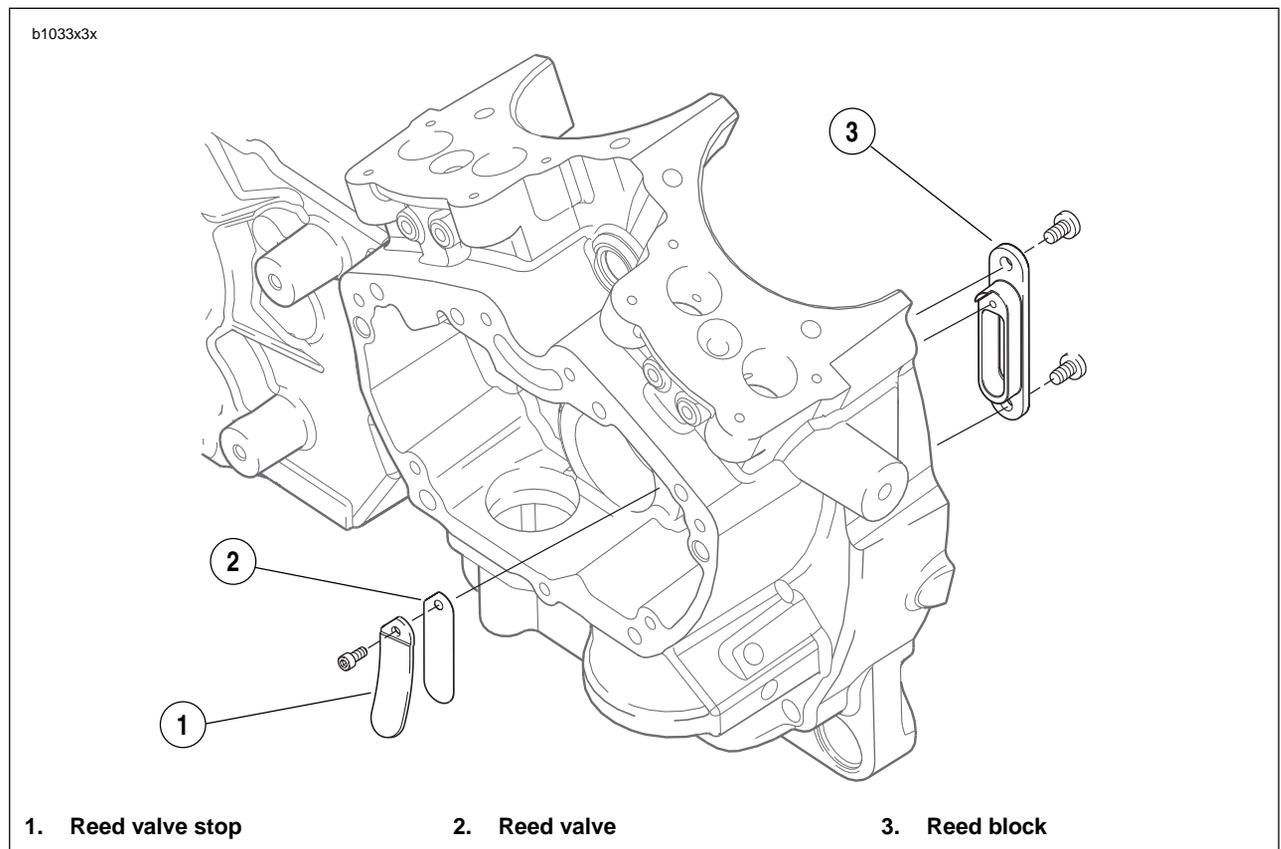
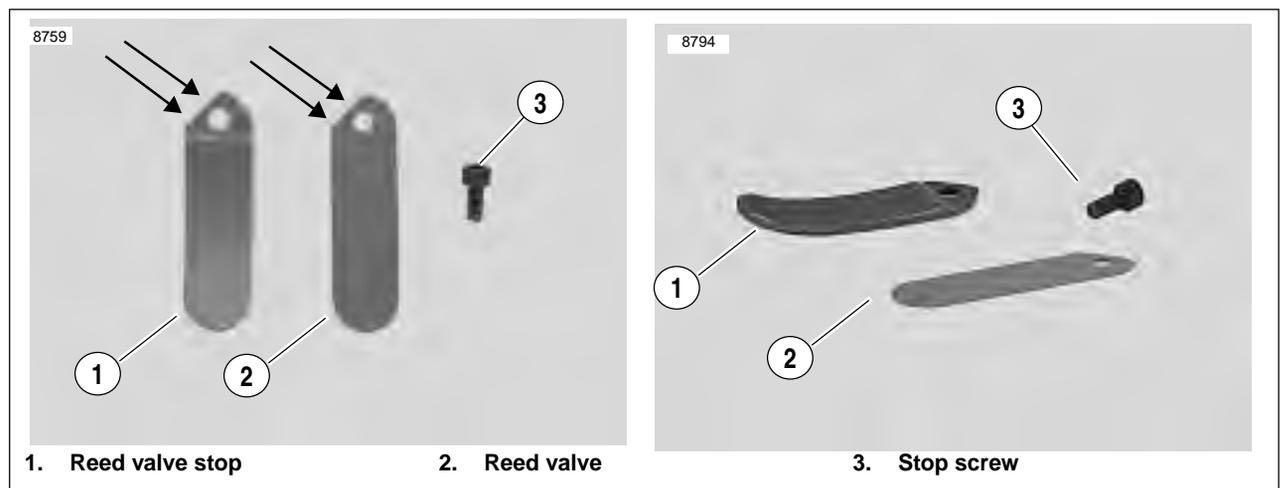

Figure 3-114. Reed Valve Assembly
Figure 3-115. Reed Valve Stop and Reed Valve
- See *Figure 3-115*. The reed valve (2) is what moves out with the downstroke and in with the upstroke of the pistons. The reed valve stop (1) limits the movement the reed valve (2). See **3.11 CRANKCASE BREATHING SYSTEM**.
See *Figure 3-115*. When replacing the reed valve it is extremely important to ensure that both edges of the reed valve stop (1) and the reed valve (2) are properly aligned to prevent premature failure of the reed valve. When replacing the reed valve it is not necessary to replace the reed block. See *Figure 3-114*.